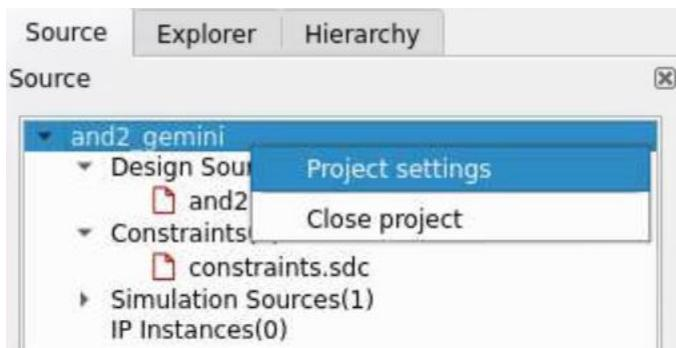

Figure 20. Edit Project Settings
11. The user can also edit the settings as shown below after a project has been created as shown in Figure 20.